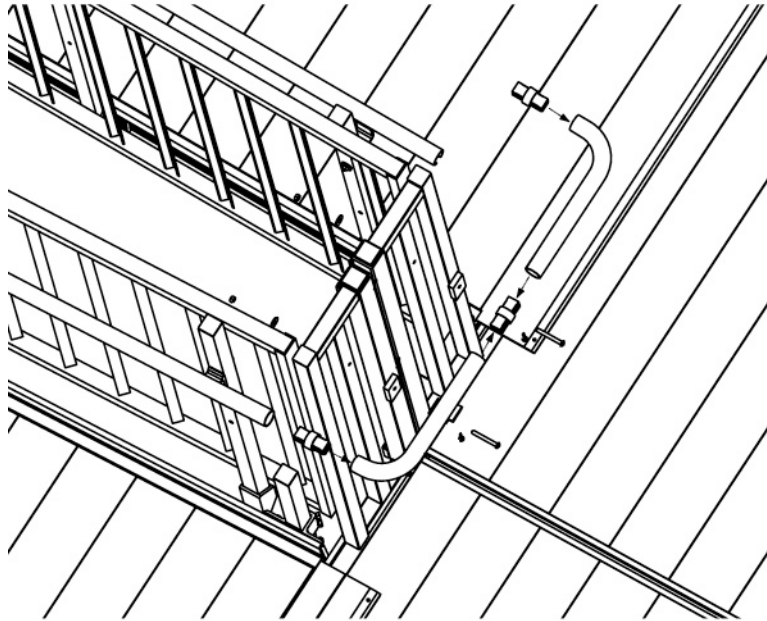

FIG. 37
- 8.6 At a turn-back platform on the inside, turn-back side (FIG. 37):